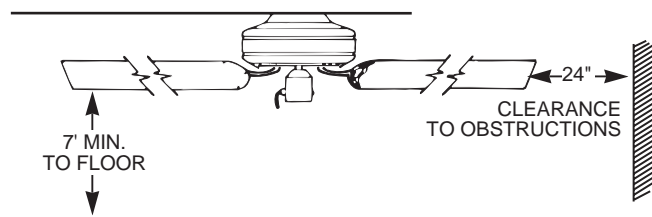

FIGURE 1
C. The fan blades must be mounted at least 7' above the floor. For maximum efficiency, there should not be any obstruction (walls, posts, etc.) within 24" of the blade tips. See Figure 1 for mounting distances.